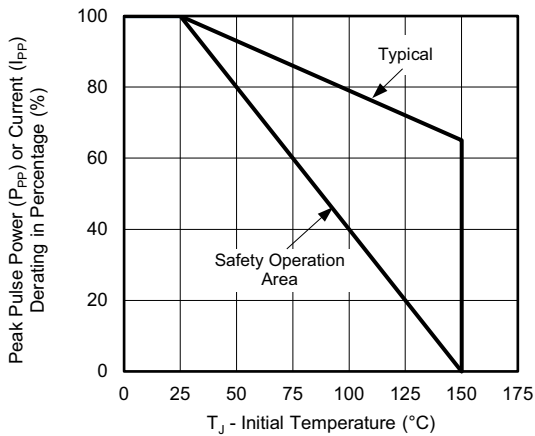
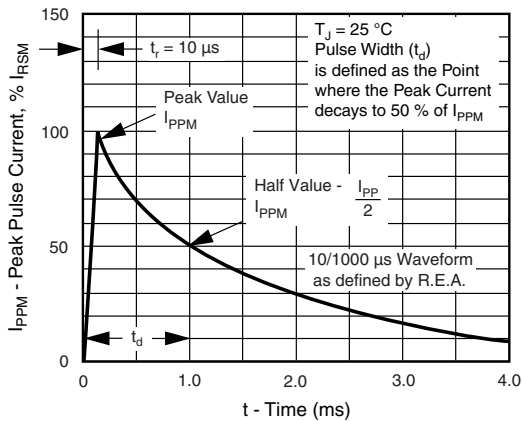

Fig. 2 - Pulse Power or Current vs. Initial Junction Temperature
Fig. 3 - Pulse Waveform
- (1) Non-repetitive current pulse, per fig. 3 and derated above  $T_A = 25\text{ °C}$  per fig. 2
- (2) Mounted on 0.31" x 0.31" (8.0 mm x 8.0 mm) copper pads to each terminal